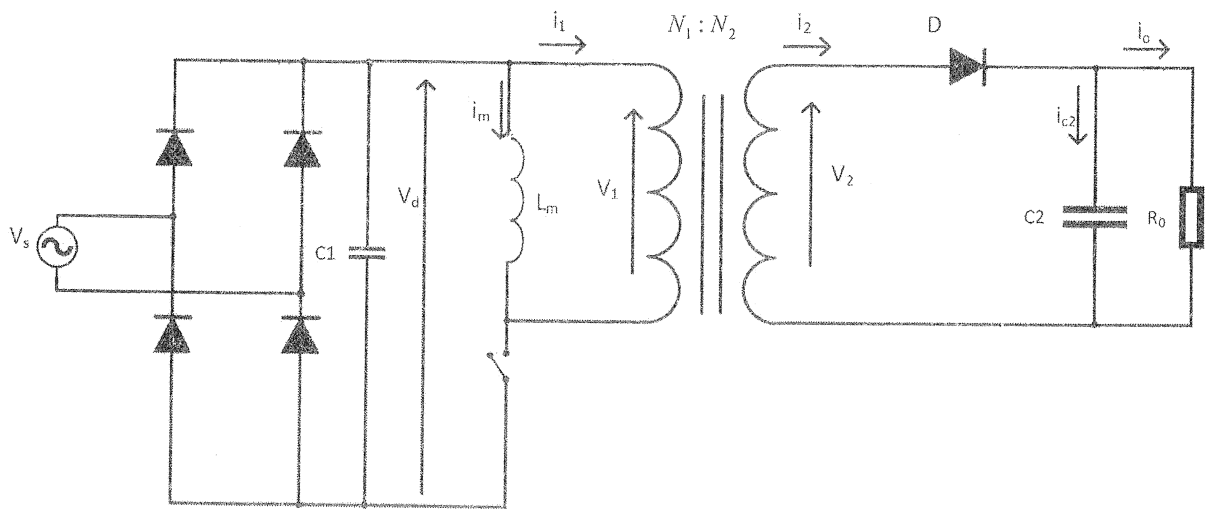

Figure Q1
- b) i) A fly-back converter shown in Figure Q1 is operating in complete demagnetizing mode. Derive the voltage transfer ratio $\left(\frac{V_o}{V_d}\right)$ for this converter in terms of the transformer turns ratio $(N_1 : N_2)$ and switch duty ratio D .
- iii) The fly-back converter shown in Figure Q1 is connected to 230 V, 50 Hz utility via an idealized single phase diode rectifier. The output power of the fly-back converter is 160 W and the turns ratio of the transformer is 1:3. The dc output voltage of the fly back converter is 800 V and the switching frequency is 50 kHz. Calculate the maximum value of the magnetizing inductance that can be used if the converter is always required to be operated in complete demagnetization.